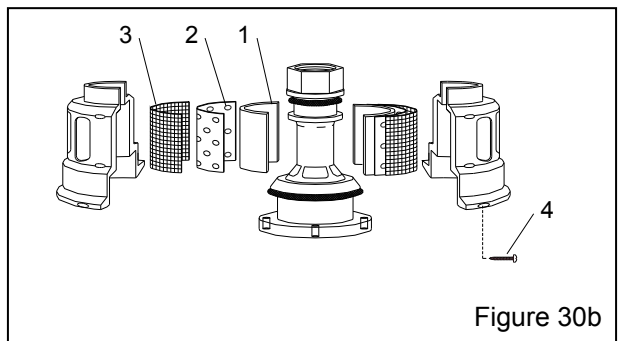

Figure 30b
**	Service kit, muffler (Fig. 30b)22868